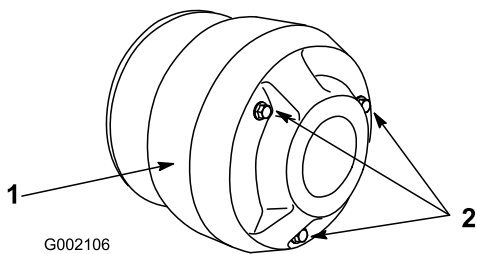

Figure 40
3. Remove the 3 bolts securing the cover to the clutch and remove the cover (Figure 40).